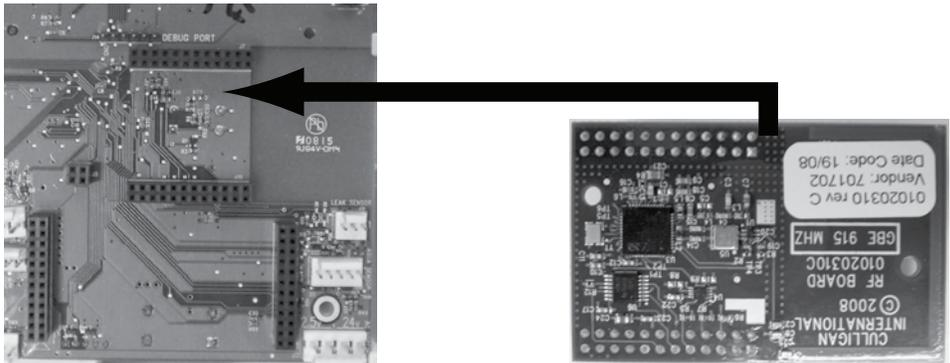

Figure 11. RF board location on GROC board.
6. Disconnect power to the RO unit. Open the control and connect the RF board into the controller circuit board. Make sure the RF board is fully seated into all of the sockets (see Figure 11). Reconnect power.
7. Install RF board into unit controller. Line up pins in RF board and press firmly into black connectors. Note orientation of RF board (see Figure 11).